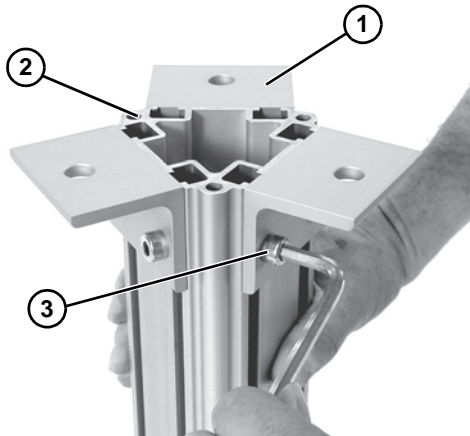

Figure 13
5. Align the foot bracket edge (**Figure 13, item 1**) with the bottom edge of the trileg post (**Figure 13, item 2**).
Failure to secure screws (Figure 13, item 3) may cause conveyor sections to drop down, causing severe injury.
TIGHTEN ALL SCREWS (Figure 13, item 3) AFTER ADJUSTMENT.
6. Tighten socket screws (**Figure 13, item 3**) to 100 in-lb (11 N-m)